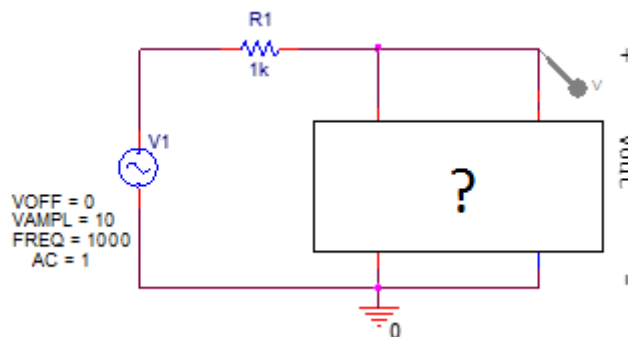

Figure 3
1. Using an appropriate number of D1N4002 diodes, design and simulate a clipper circuit that limits its output approximately between 2.8 V and -1.4 V (Figure 3).